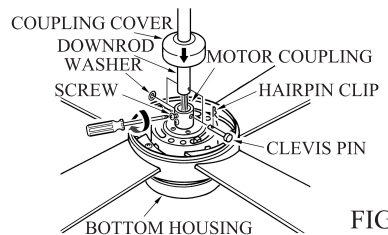

FIG.4
3. Align the clevis pin holes in the downrod with the holes in the motor coupling. The clevis pin must pass through the holes in the motor coupling and the downrod. Place the washer onto the clevis pin and install the hairpin clip making sure to push straight leg of the hairpin clip through the hole near hanger ball to make sure the clevis pin is properly installed. Reinstall the 2 set screws in the motor coupling and securely tighten set screws against the down rod assembly. (see Fig.4)